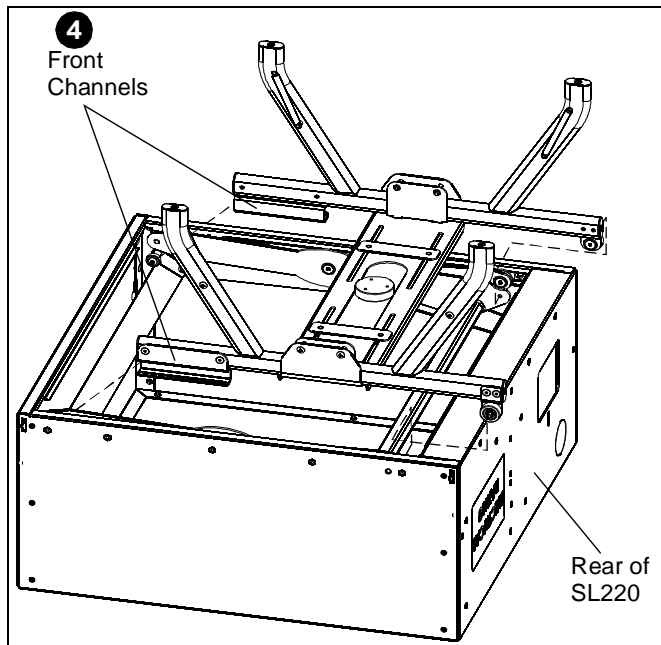

Figure 15
5. While still pulling the projector cradle away from the sides of the SL220, slide front channels towards back, off of bearings and remove projector cradle from SL220. (See Figure 15)